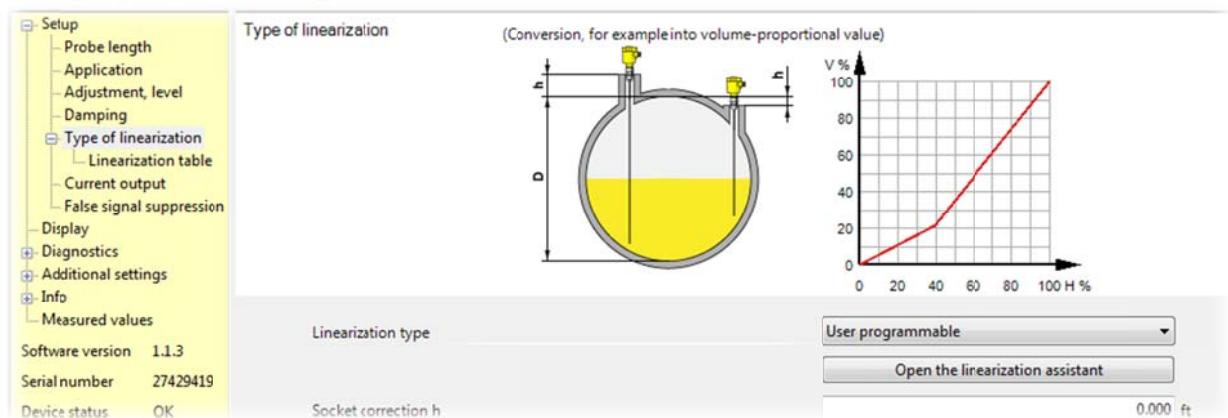

Figure 3
26. Under setup click on *Type of linearization* seen in figure 3